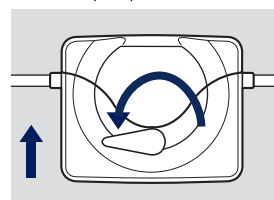

Fig.3
- 3 Turn the Pump Cover Lever anticlockwise by 180 degrees to close the Pump Cover. (Fig.3)